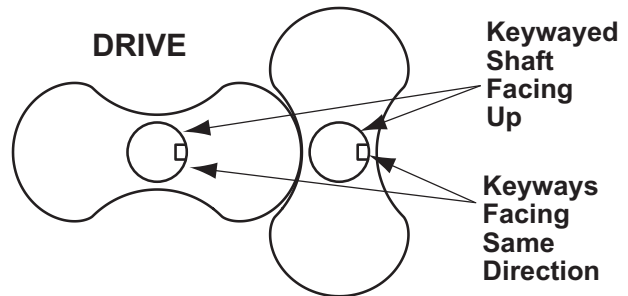

Figure 8-3 – Keyways
3. Stand rotors on arbor press table with the gear end shafts up. **See Figure 8-3**. Two keyways should point in the same direction, to the right.
3. Stand the rotors on arbor press table with the gear end shafts up. **See Figure 8-3.** Two keyways should point in the same direction, to the right.